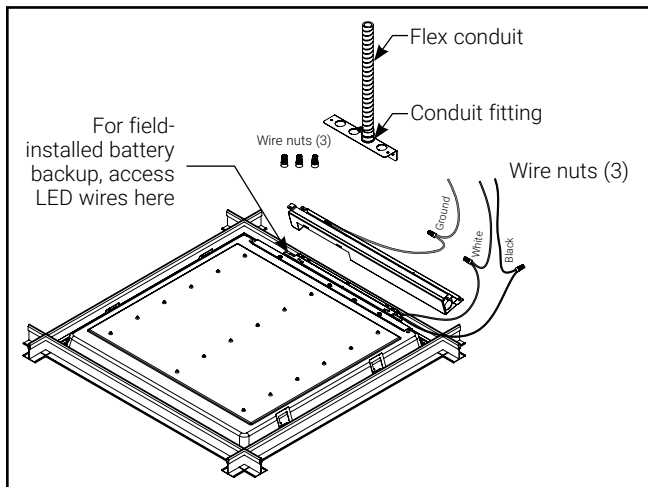

Figure 5.
7. Bend screw tabs 90 degrees from grid clip and then 90 degrees toward T-GRID frame. Use the three provided wire nuts to attach the ground wire to the ground supply wire, the black (line) wire to the black supply wire, and the white (neutral) wire to the white supply wire (Fig. 5).
NOTE: This fixture is compatible with battery backup systems including the Surelites EBPLED7W and EBPLED14W. If using a compatible field-installed battery backup system, remove driver cover plate to access LED load wires and follow battery backup wiring instructions (Fig. 5). Ensure driver cover plate is reinstalled after wiring.